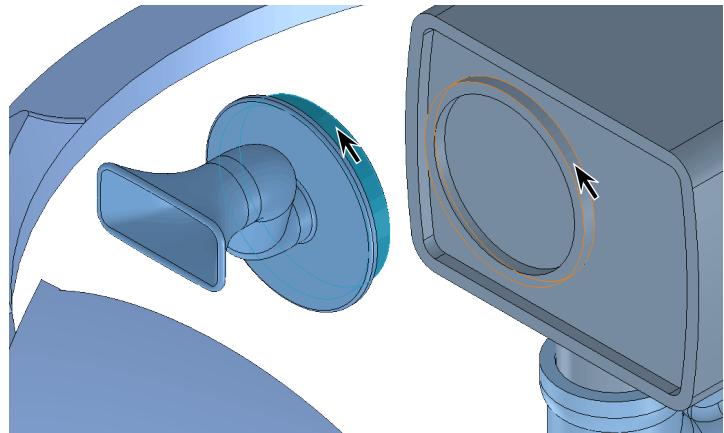

Fig. 35
Step 3. Click a **cylindrical face of Extrude2** in In Pipe and a **cylindrical face of Extrude4** in Pump, **Fig. 35**.